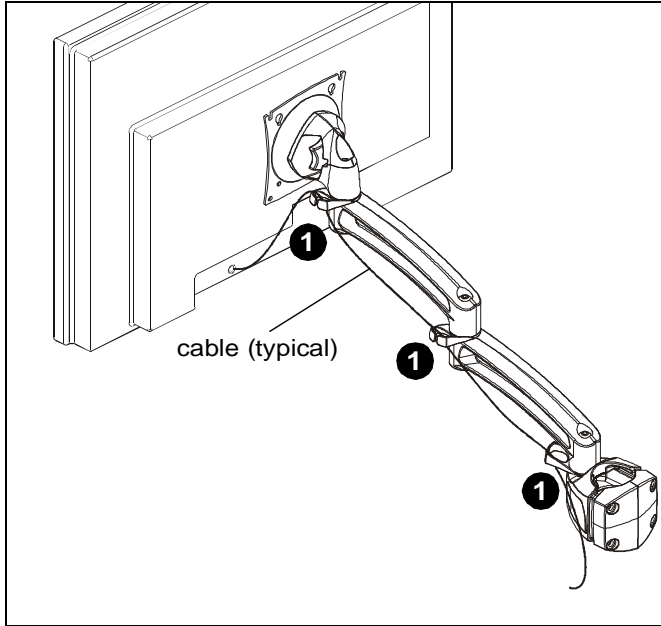

Figure 16
1. Route cables through cable management channels. (See Figure 16)